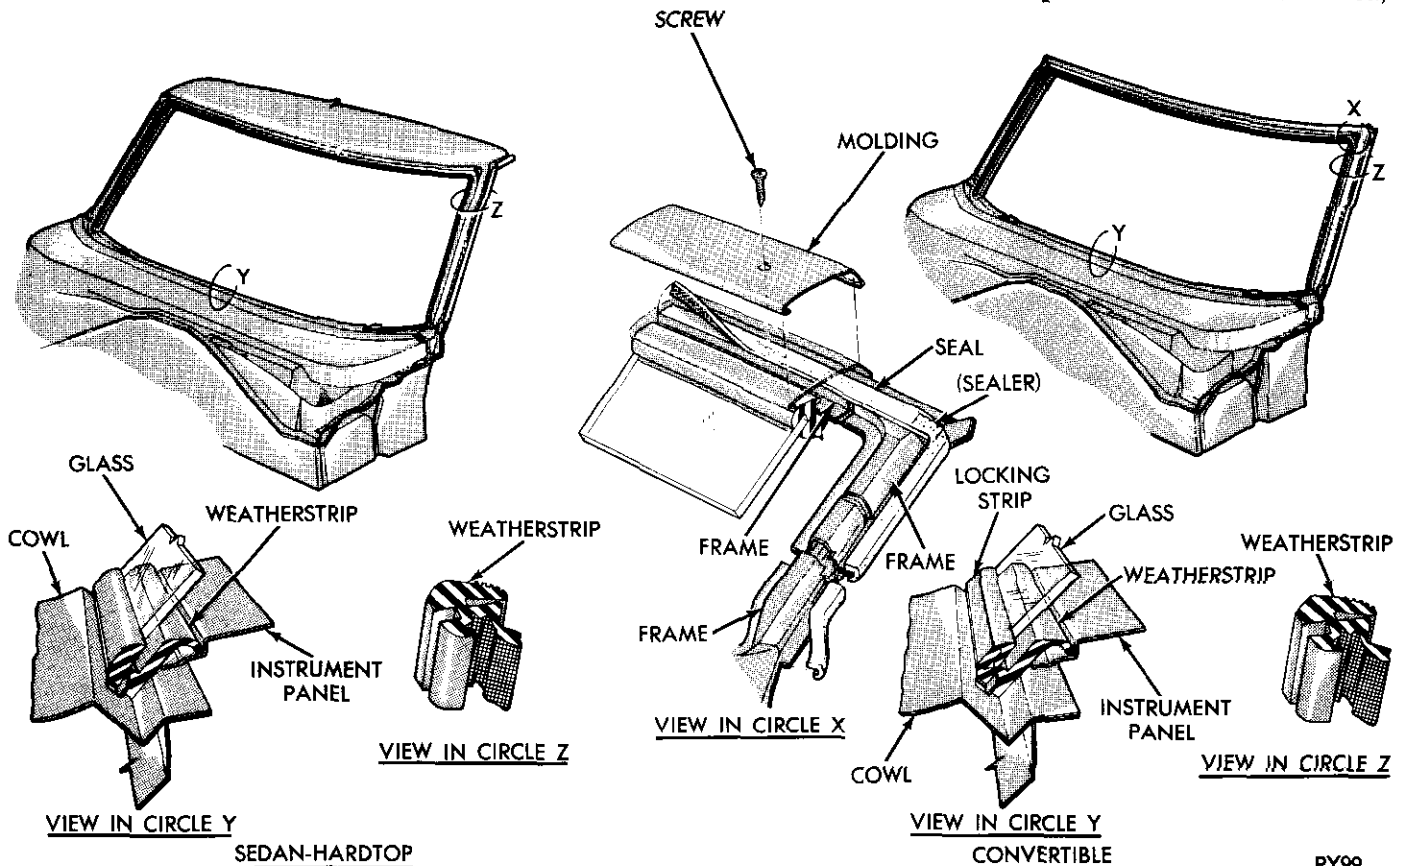

Fig. 2—Windshield Weatherstrip (Coronet-Charger)
- (4) Unlock weatherstrip (Fig. 2) by prying lip of weatherstrip apart, inserting a fibre wedge, and with a slight twist to wedge, unlock by moving wedge around weatherstrip.
- (5) Carefully loosen weatherstrip from glass inner and outer sides.
- (6) With an assistant supporting one end of windshield, exert pressure, from inside the car, to force windshield out of weatherstrip and carefully remove from opening.
- (7) Whenever a glass has cracked from pressure at the fence area, remove weatherstrip and correct cause of crack. The fence should be straight, smooth and without burrs or high spots.
- (8) Inspect weatherstrip for damage.
(5) Install weatherstrip on fence at sides and upper opening. With hand pressure, seat weatherstrip fully on fence.
(6) With an assistant, slide upper edge of glass into channel of weatherstrip and using a fibre tool, force weatherstrip lip over glass completely around.
(7) Seat glass in weatherstrip, pounding glass, with palm of hand using an upward motion.
(8) Insert a fibre tool between weatherstrip and glass, at either corner, slide tool across top, and completely around weatherstrip to seat glass in place.
(9) Using a fibre tool and working across top, down sides and over bottom, force weatherstrip locking tab into locked position (Fig. 2).
(10) Water test windshield area.
(11) Install outer mouldings, wiper arms and blades.
(12) Install inner garnish mouldings, clean glass inner and outer surfaces and remove protective covering.